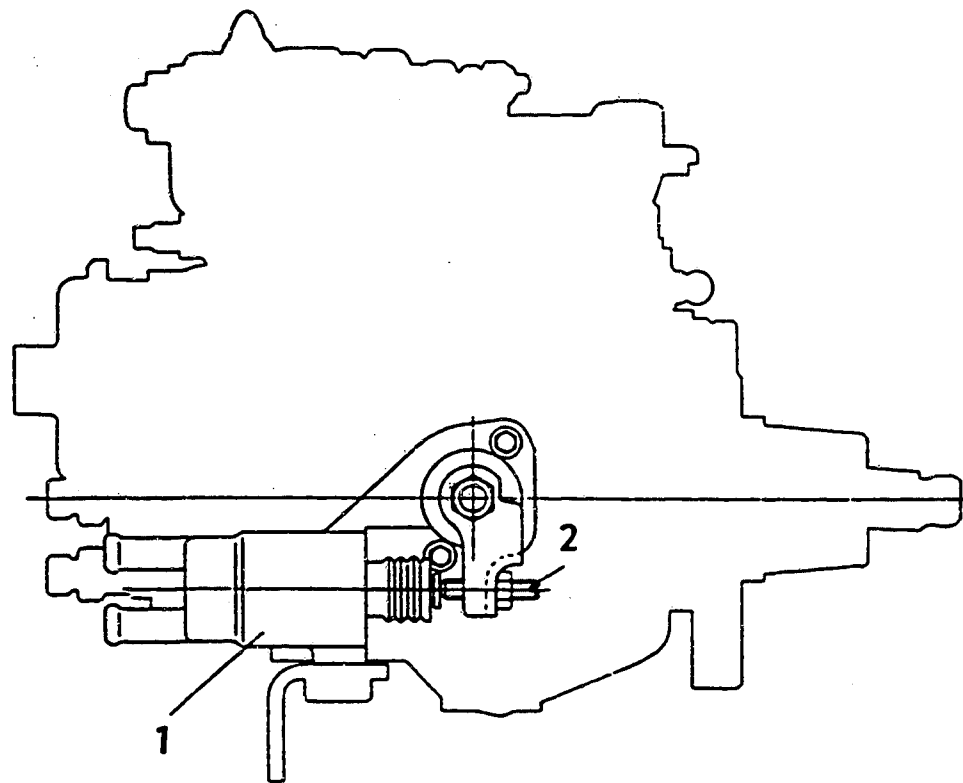

Figure 36
1. Timer Stroke Adjustment (Refer to Figs. 36 and 37)